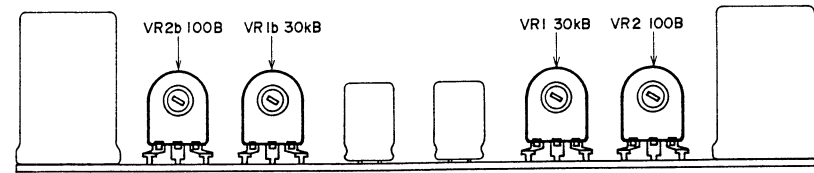

Fig. 40
- 3) Adjust semi-fixed resistors VR2 100B(Left) and VR2b 100B(Right) of Power Amp. P.C. Board shown in Fig. 40 to obtain a 40 mA ampere meter indication on both the left and right channels.
- 2) Adjust semi-fixed resistors VR1 30 kB(Left) and VR1b 30 kB(Right) of Power Amp. P.C. Board shown in Fig. 40 to obtain half the value of the power source voltage.